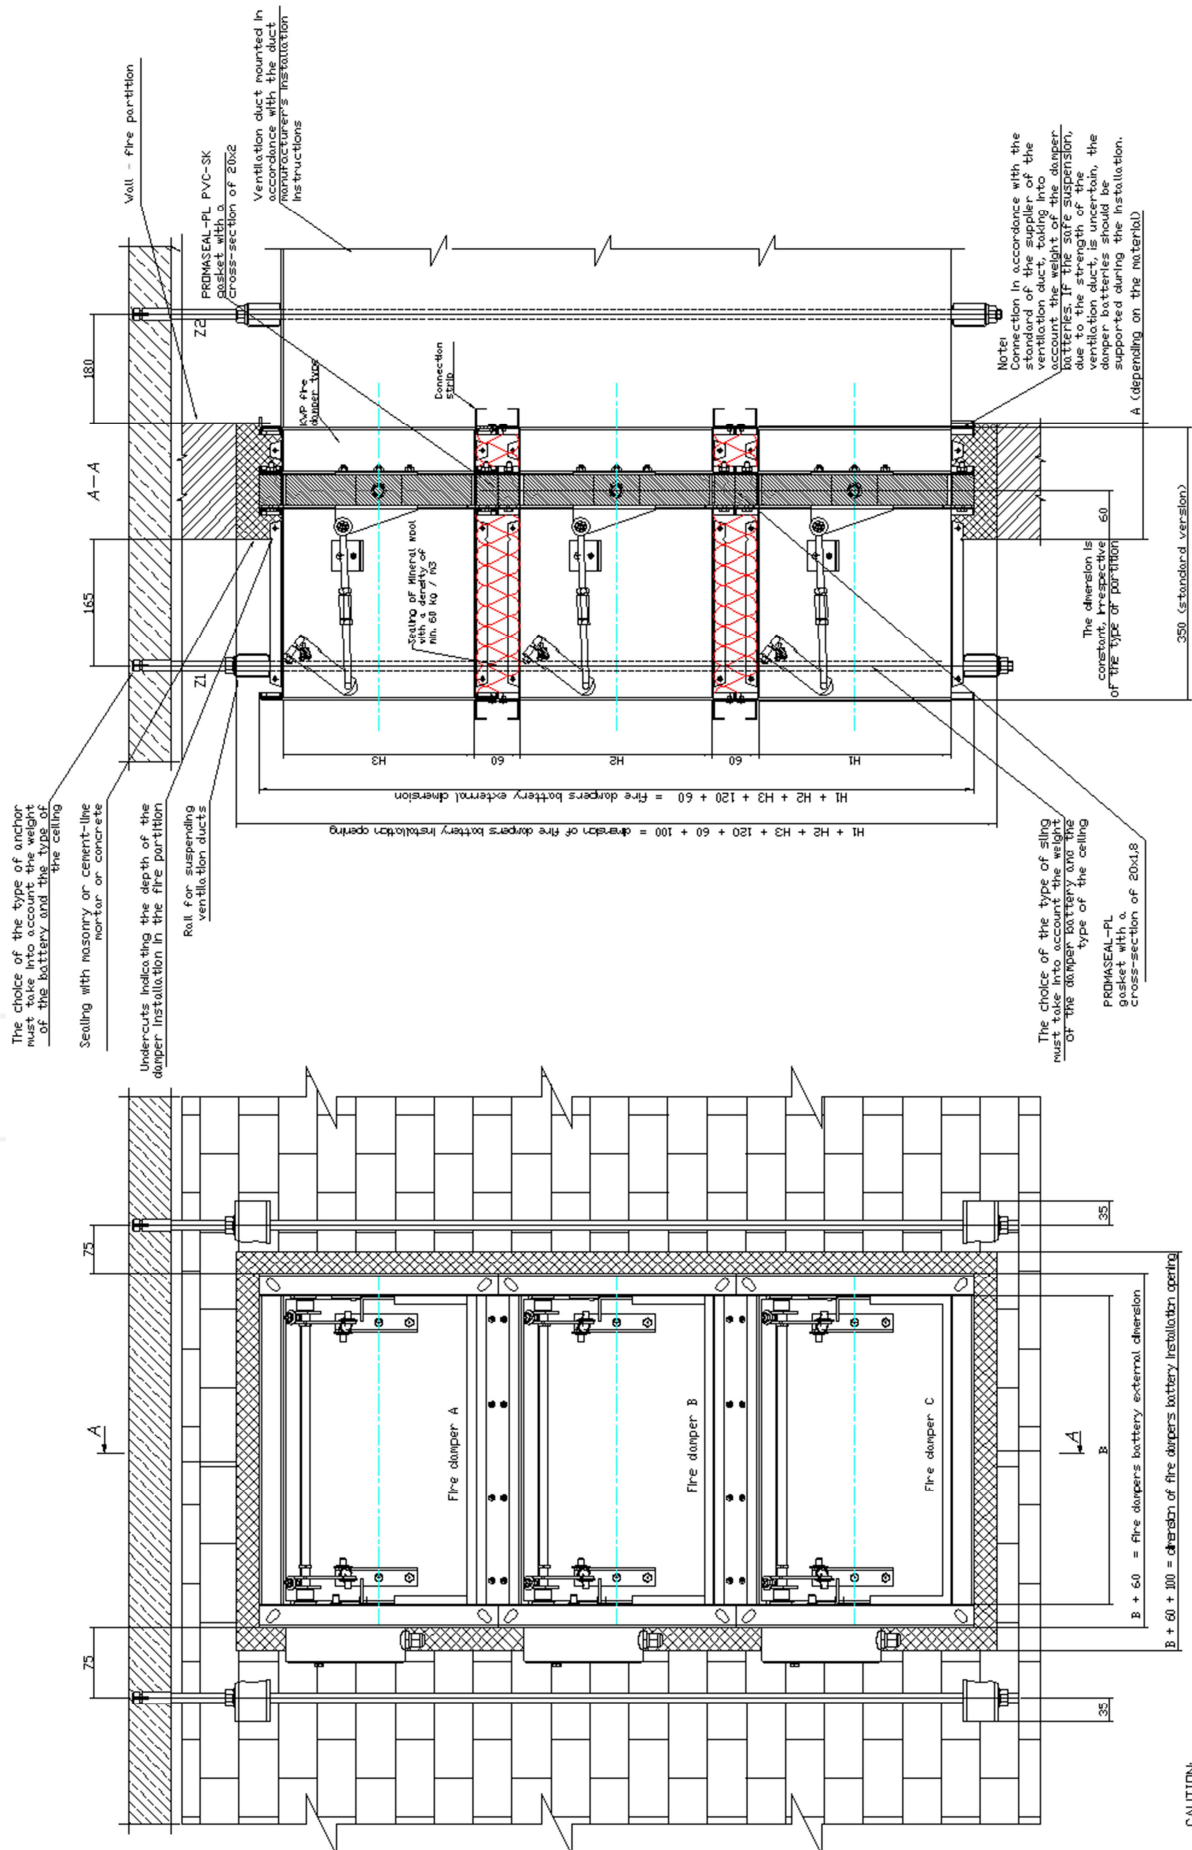

Figure 15. Installation of a battery consisting of three fire dampers KWP-O-Ex in vertical arrangement in wall
Installation of KWP-O fire dampers batteries in rigid wall compartment (Figure 15 to 18)
- For vertical battery consisting of two KWP-O-Ex fire dampers: $(B1+120) \times (H1+H2+180)$ (Figure 15),